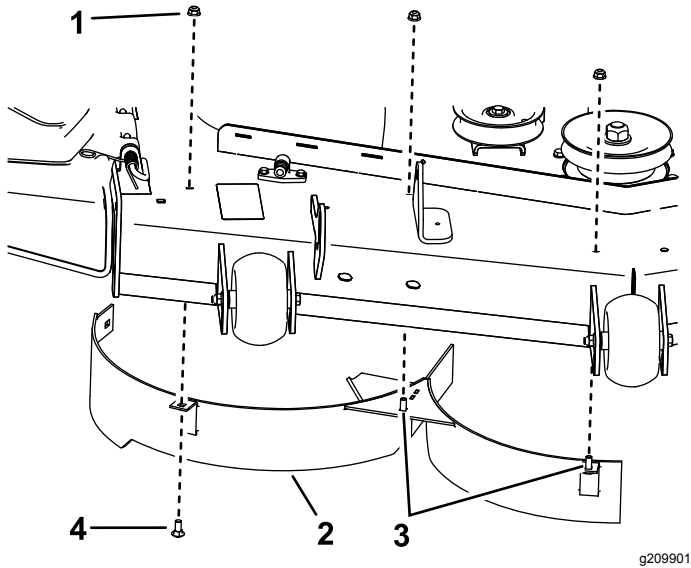

Figure 6
2. Install the right baffle using 1 carriage bolt (5/16 x 3/4 inch) and 3 nuts (5/16 inch) as shown in Figure 6. Tighten the fasteners by hand.